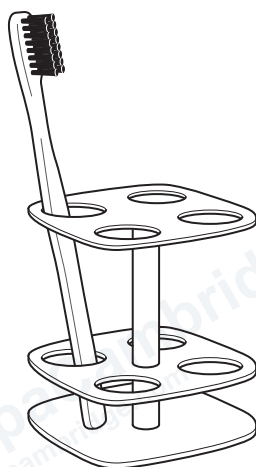

Figure 1.1
- 1 Figure 1.1 shows a toothbrush holder made from stainless steel.